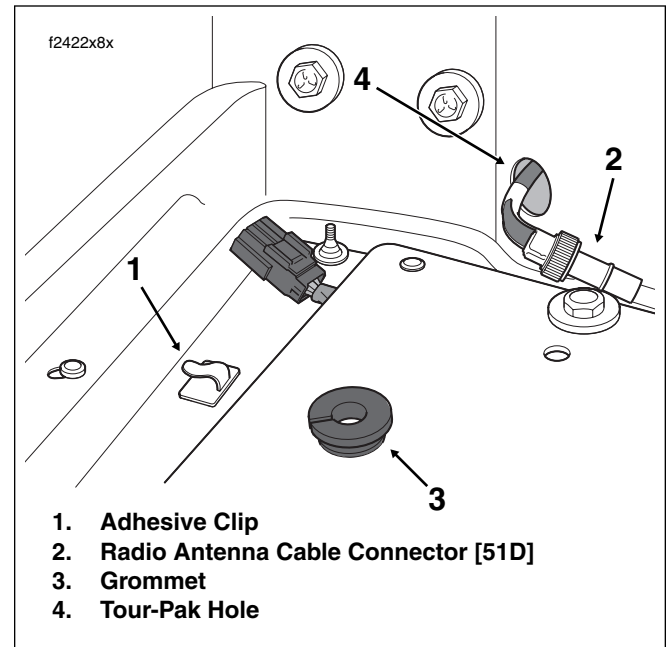

Figure 2-145. Feed Main Harness Thru Tour-Pak Hole
5. Feed main harness conduit and connectors through hole in Tour-Pak. See Figure 2-145.
6. Feed main harness conduit and connectors through hole in Tour-Pak. See Figure 2-145.